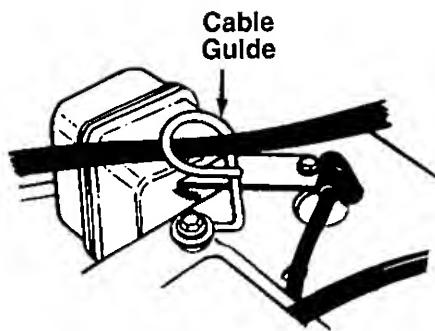

FIGURE 7.
6. Models 646F and 666H only: Slip the cables that run from the handle panel to the chute into the cable guide located on top of the engine. See figure 7.